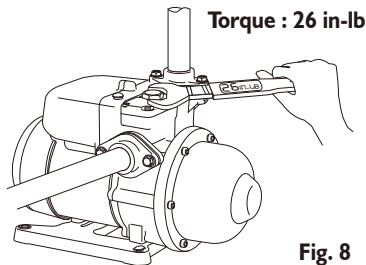

Fig. 8
1. Before starting, the pump must be primed. For installation with no inlet pressure, please follow the procedure as shown in Fig 8.